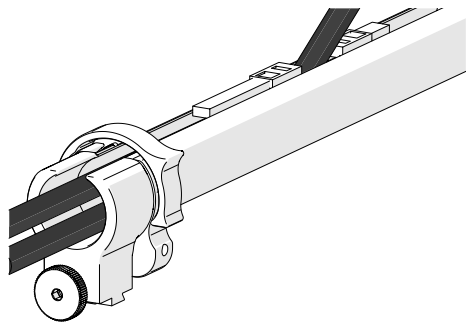

Fig. 80 - Flexibility
4. When necessary, the two zippers may be opened to allow cables to exit the sleeving anywhere between the ends (Fig. 80).